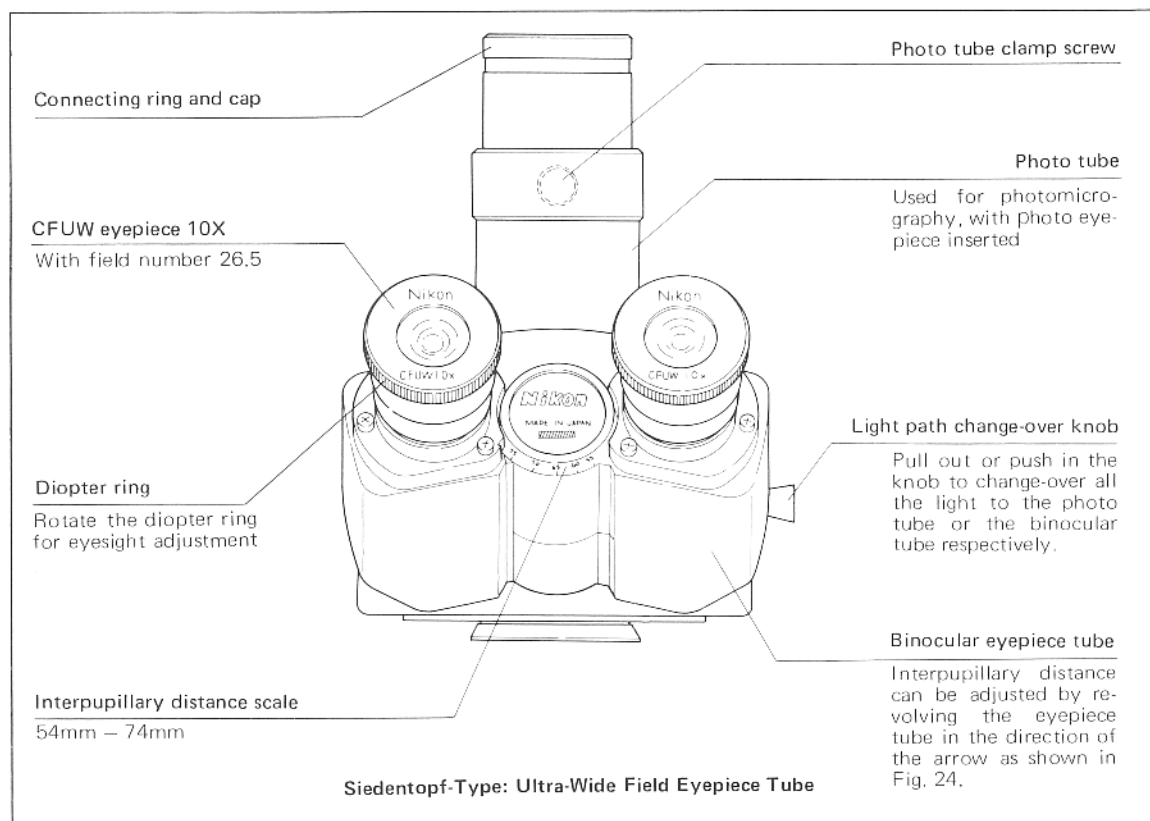

Fig. 23
1) Nomenclature (Refer to Fig. 23)